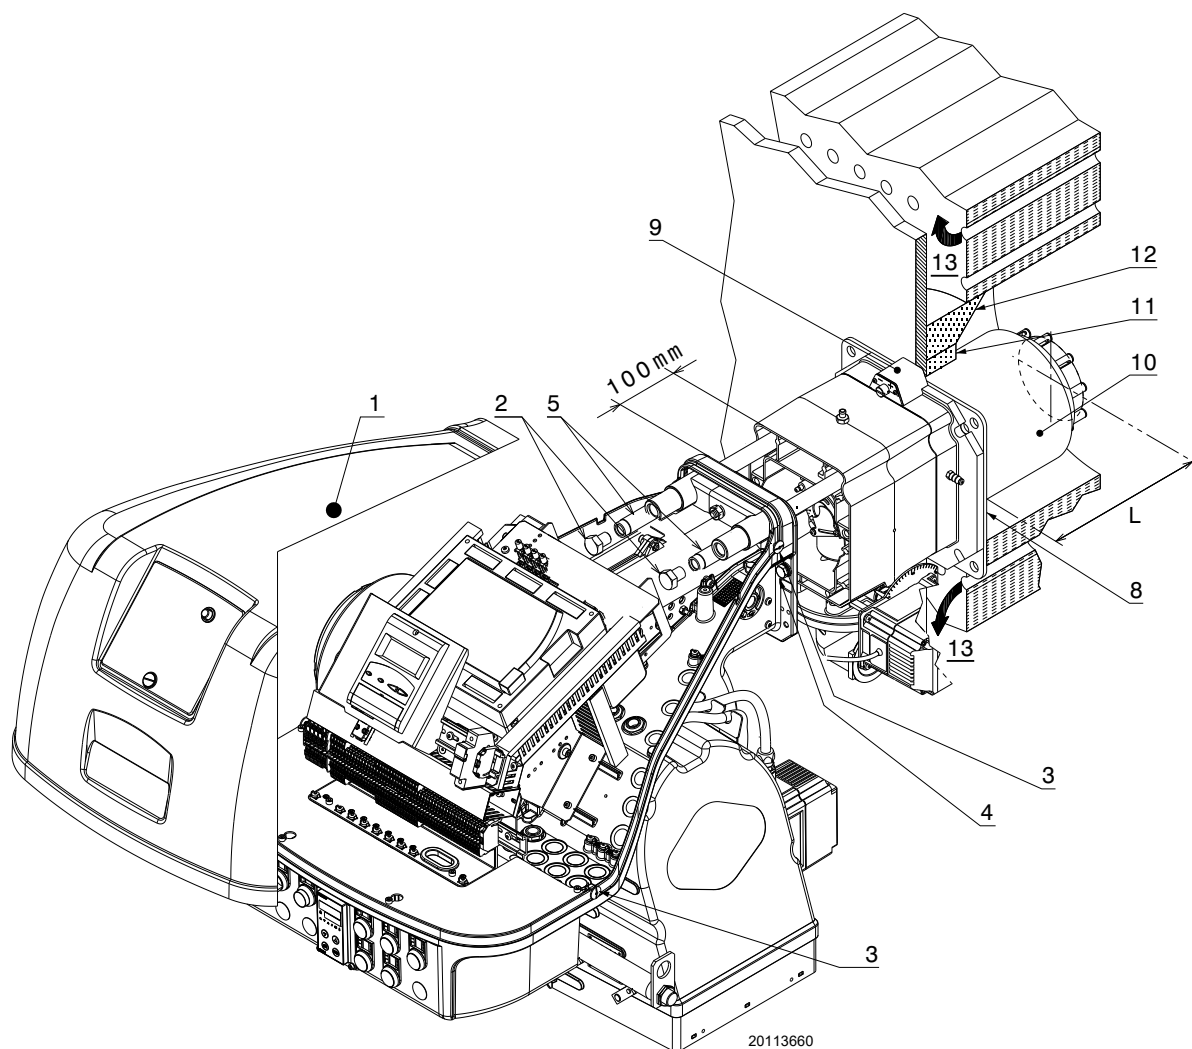

Fig. 16
For boilers with front flue passes 13)(Fig. 16 at page 24), or flame inversion chambers, a protection in refractory material 11) must be inserted between the boiler refractory 12) and the blast tube 10).
For boilers with a water-cooled frontal, a refractory cover is not necessary 11)-12)(Fig. 16), unless expressly requested by the boiler manufacturer.
Separate the combustion head from the rest of the burner, as in Fig. 16; proceed as follows:
- reassemble the burner on the guides 3) at about 100 mm from the pipe coupling 4) - burner in the position shown in Fig. 16;